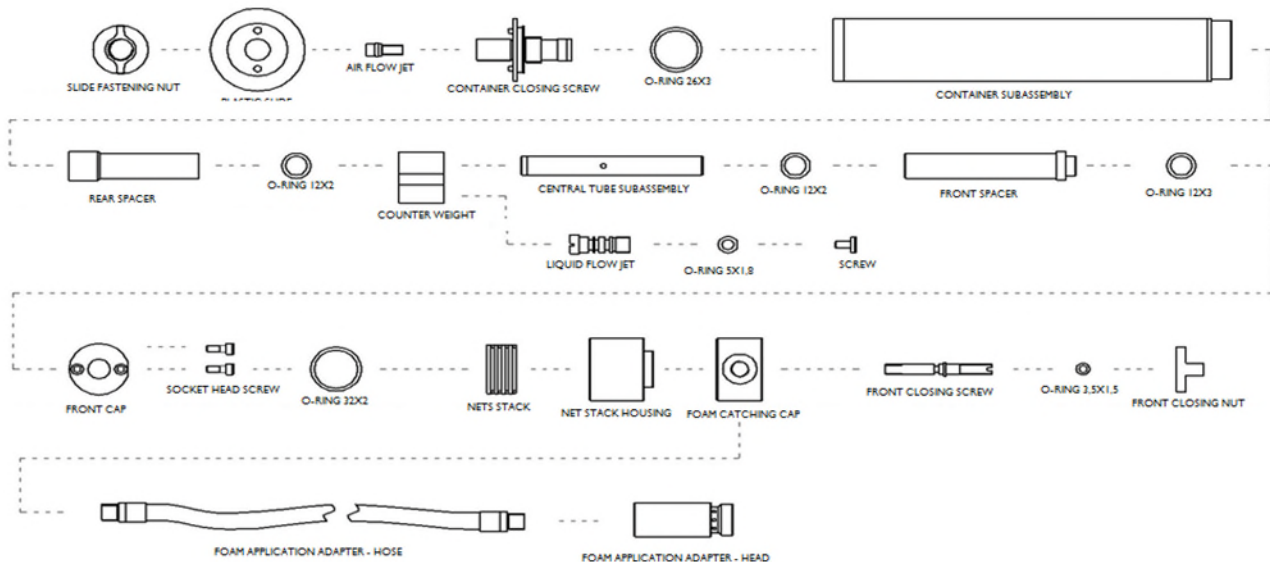

FIG. 15
- b. In case the dispenser does not produce foam or it is somehow damaged, authorized personnel should disassemble the dispenser as presented in Fig. 15. Clean precisely all the parts and make sure all air and liquid